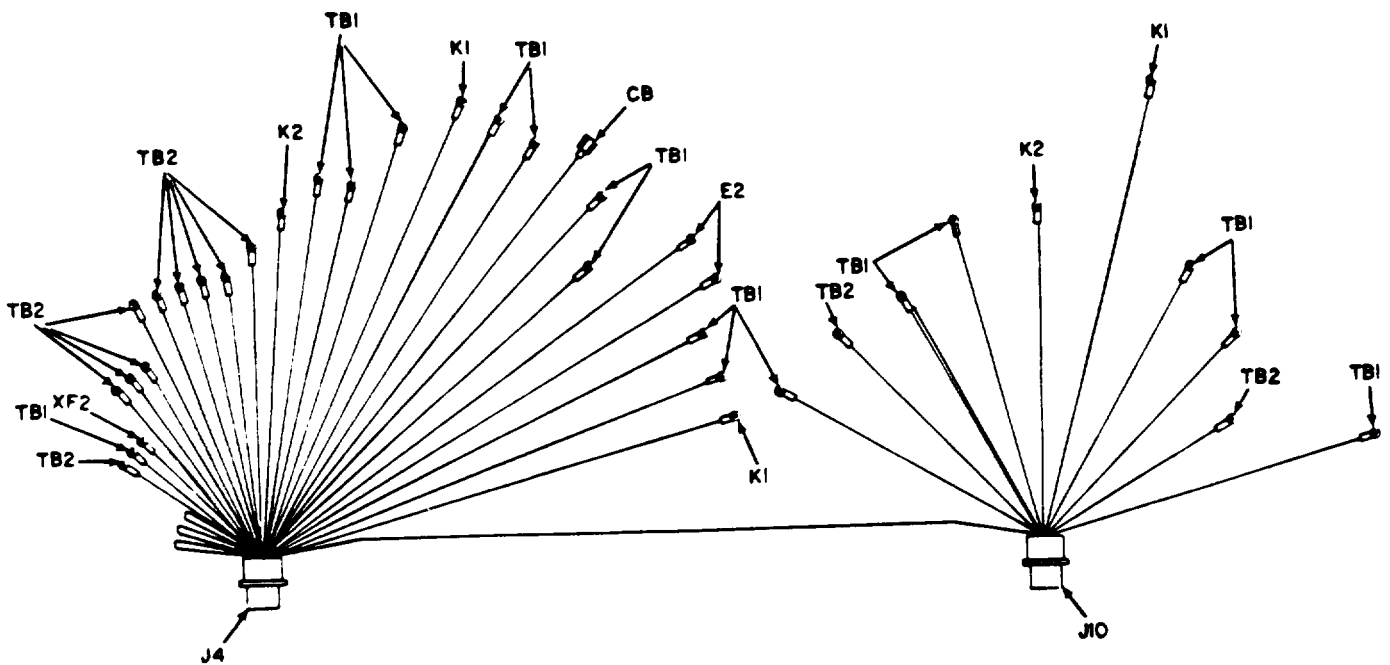

Figure 4-28. Wiring Harness (Junction Box).
22. Tag and disconnect leads from (K1 and K2) (See Figure 4-28).